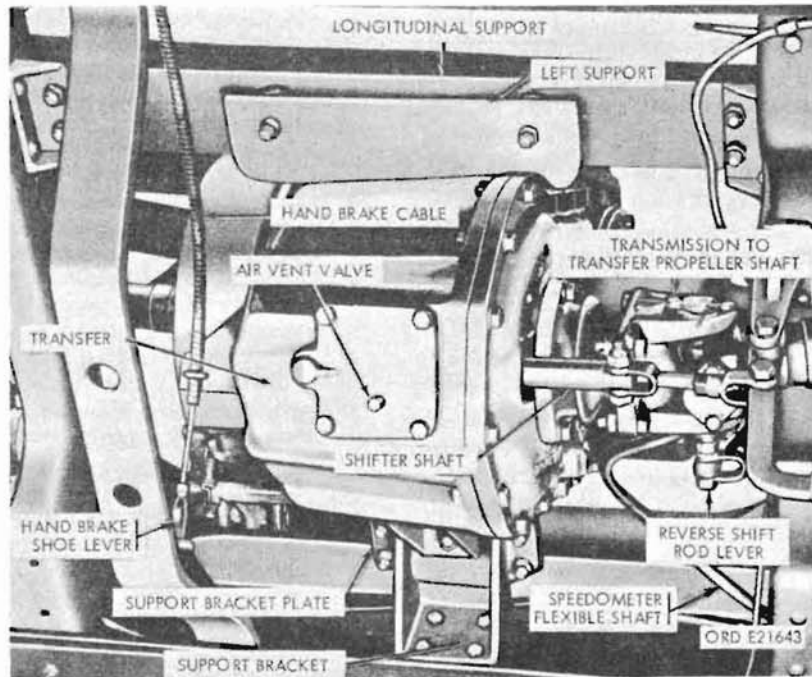

Figure 192. Transfer assembly
a. Description. The transfer (fig. 192) is a two-speed, double-sprag unit driven by the transmission and distributing power to the front and rear axles through propeller shafts. It is located immediately back of the transmission and is supported on two sides. Control is by the transfer shift lever (fig. 191) in the cab of the vehicle. The transfer gearing is designed to drive the front axle at a slightly lower speed than the rear axles. An overrunning double sprag clutch in the transfer drive to the front axle automatically eliminates delivery of power to the front axle during normal operation, forward or reverse, and front wheels run free. When rear wheels slip about 8
(2) All models.
- (b) Disconnect handbrake cable. Remove nut and disconnect handbrake cable from handbrake shoe lever (fig. 192). Remove U-bolt, and remove cable from bracket on transfer.
- (d) Disconnect speedometer flexible shaft. Disconnect speedometer flexible shaft (fig. 192) from angle drive adapter on transfer, and remove adapter.
(a) Install transfer. Before installing the transfer power take-off, if so equipped, on transfer, place the PTO driving clutch half on the rear end of transfer input shaft. Tighten set screw and secure with lock wire. Install the ventilating valve on transfer (para 161). Install the left support (fig. 192) with an attached longitudinal support, to the transfer case with four self-locking hex-head bolts. Install the right support, with attached support-bracket plate, to the transfer case with two self-locking hex-head bolts. Raise the transfer into position and secure the support-bracket plate to the support bracket with four hex-head screws and safety nuts. Secure longitudinal support to the support brackets with four hex-head screws and safety nuts.
(d) *Connect handbrake cable.* Connect the handbrake cable (fig. 192) to handbrake lever with the nut, and to transfer-case bracket with cable-to-bracket U-bolt.
161. Transfer Air Vent Valve (Fig. 192)